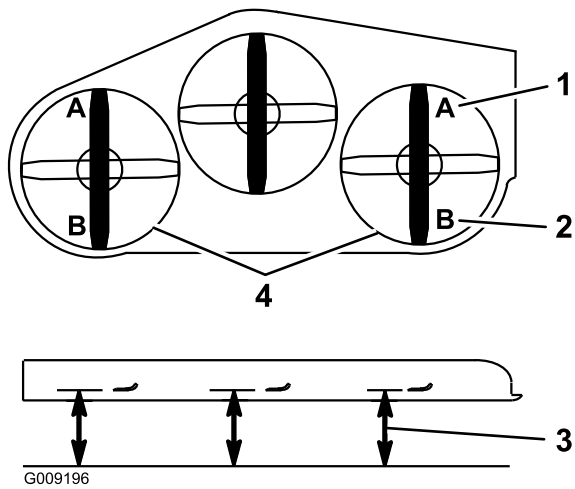

**Figure 89**
5. Push the deck-lift pedal all the way forward and the deck latches at the 14 cm (5-1/2 inches) transport position (Figure 89).